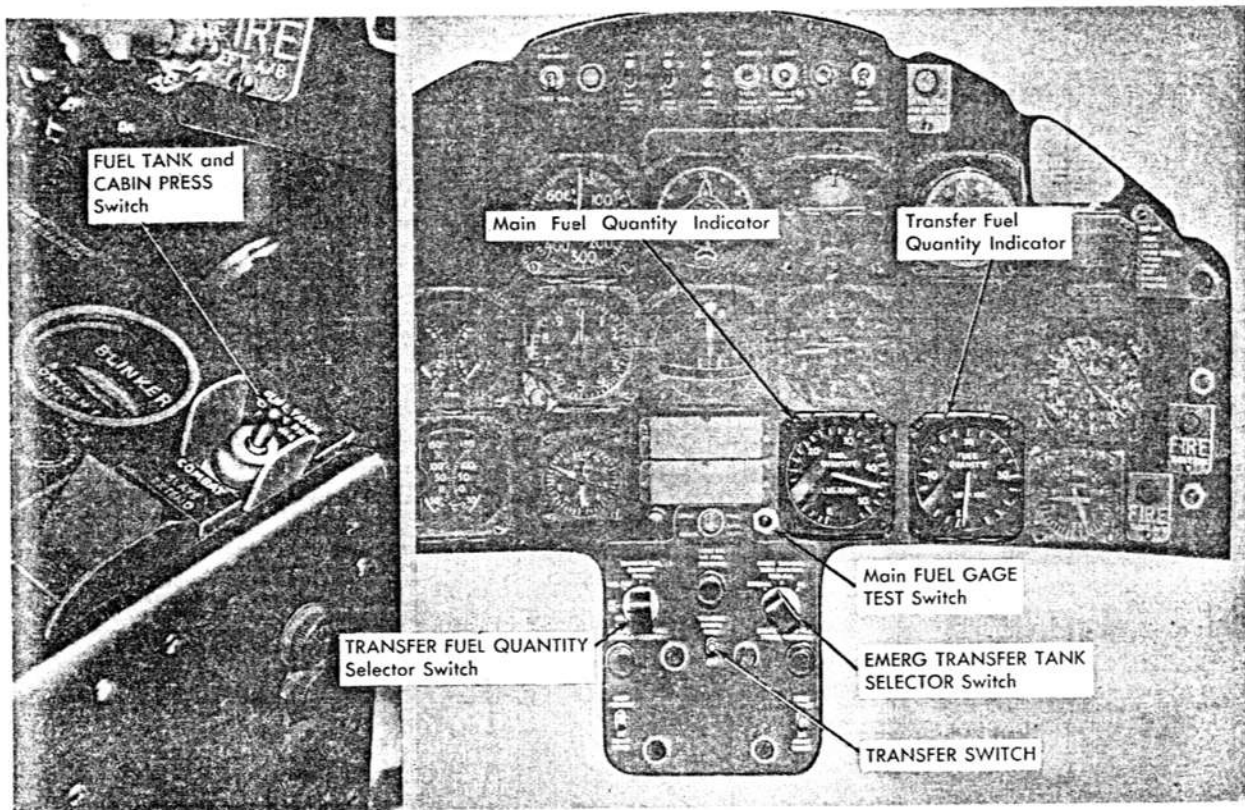

Figure 1-9. Fuel System Controls and Instruments
**TRANSFER SWITCH.** The TRANSFER SWITCH (figure 1-9) is located on the lower instrument panel. It has three positions: neutral, momentary "OFF," and momentary "RESET." The switch is placed momentarily in "OFF" either to stop the fuel transfer pumps at the end of the transfer cycle or for any other reason. The NO FUEL TRANSFER warning light is also turned off. The transfer pumps will start operating when the airplane's electrical power is first turned on, but, if after that the TRANSFER SWITCH is turned to "OFF," the pumps can only be started again by placing the switch momentarily in "RESET." *The TRANSFER SWITCH can turn the transfer system off when the EMERG TRANSFER TANK SELECTOR switch is in "NORMAL."*
**EMERGENCY TRANSFER TANK SELECTOR SWITCH.** The EMERG TRANSFER TANK SELECTOR switch (figure 1-9) has three positions: "NORMAL," "FWD FUS," and "CS." This switch should be left in "NORMAL" unless the automatic transfer cycle is inoperative or malfunctioning. Moving the switch from "NORMAL" overrides the TRANSFER SWITCH. Placing the switch in "CS" starts both aft center section cell pumps; "FWD FUS" position starts
**TRANSFER FUEL QUANTITY SELECTOR SWITCH.** The TRANSFER FUEL QUANTITY selector switch (figure 1-9) is located on the lower instrument panel. It has four positions: "FWD FUS," "LHCS," "RHCS," and "TOTAL" and provides a means of selecting readings of individual transfer cell quantities. It also serves as a means of checking the freedom of rotation of the transfer fuel quantity indicator mechanism.
**MAIN FUEL GAGE TEST SWITCH.** The main FUEL GAGE TEST switch (figure 1-9) is located on the instrument panel. It is provided to position the main system quantity indicator pointer to zero momentarily as a check on the electrical continuity of the gage and the freedom of rotation of the indicator mechanism.
**FUEL TANK AND CABIN PRESSURIZATION SWITCH.** The FUEL TANK AND CABIN PRESS switch (figure 1-9) is located on the left-hand console. During routine flight conditions, it is placed in "NORMAL." Placing the switch in "COMBAT" reduces
**MAIN FUEL QUANTITY INDICATOR.** The main fuel quantity indicator (figure 1-9) is located on the instrument panel. It is calibrated in pounds and indicates the total quantity in the four main cells.
**TRANSFER FUEL QUANTITY INDICATOR.** The transfer fuel quantity indicator (figure 1-9) is located on the instrument panel. It is calibrated in pounds and indicates the quantity of fuel in the transfer cells selected by the TRANSFER FUEL QUANTITY selector switch.
**NO FUEL TRANSFER WARNING LIGHT.** The NO FUEL TRANSFER warning light (figure 1-9) is located on the lower instrument panel. When fuel pressure in the transfer manifold drops, for any reason, a pressure differential switch energizes this light.